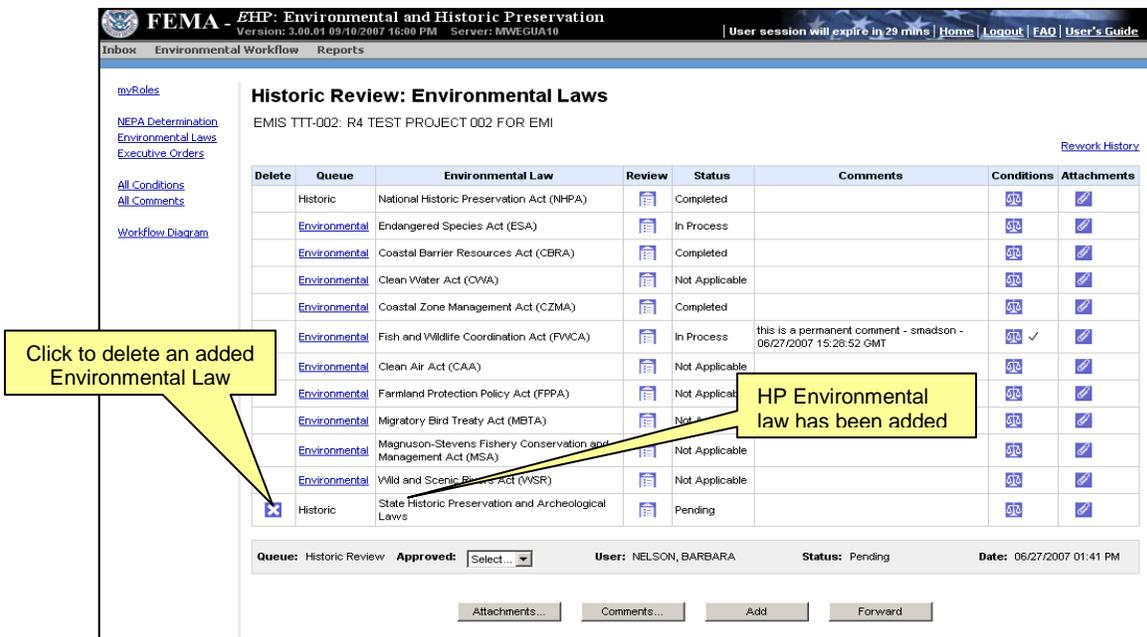

Figure 3.16: Deleting Additional HP Laws in the Technical Review
- If a law is added in error, the Reviewer can delete it from the review Queue by selecting the **Delete** icon in the *Delete* column (Figure 3.16)